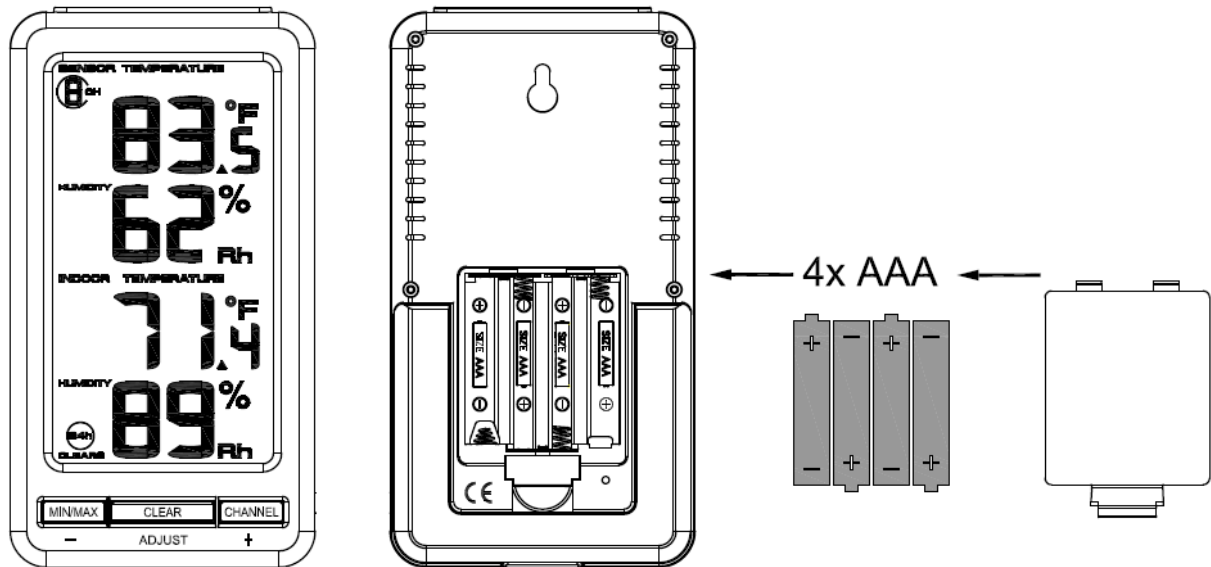

Figure 1
2. Remove the battery door on the back of the display, as shown in Figure 1. Insert four AAA (alkaline or lithium, avoid rechargeable) batteries in the back of the display console.